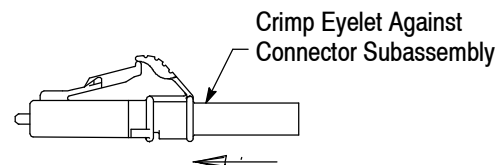

Figure 8
1. Taking care not to break the fiber, insert the fiber into the rear body and support tube of the connector subassembly until the fiber buffer bottoms on the base of the ferrule. The end of the cable jacket should be just short of the rear body and the fiber should extend approximately 6.4 mm [.25 in.] from the endface of the ferrule. See Figure 8, Detail A.
2. Uniformly distribute the cable strength members around the rear body of the connector subassembly. See Figure 8, Detail B.
3. Slide the crimp eyelet/heat shrink assembly over the strength members until it bottoms against the connector subassembly. See Figure 8, Detail C.
3. Slide the crimp eyelet over the strength members until it bottoms against the connector subassembly. See Figure 8, Detail C.